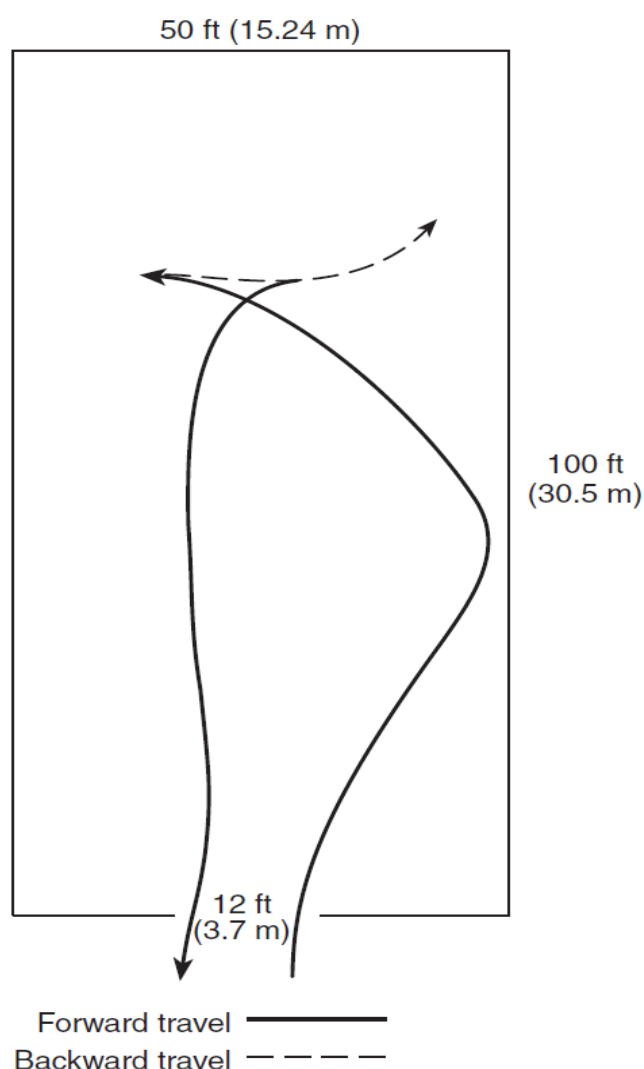

FIGURE A.4.3.4 Confined Space Turnaround.
A.4.3.4: The confined space turnaround exercise measures the driver's ability to turn the vehicle around in a confined space without striking obstacles. The turn is accomplished within an area 50 ft × 100 ft (15.24 m × 30.5 m). The driver moves into the area from a 12 ft (3.7 m) opening in the center of one of the 50 ft (15.24 m) legs, turns the vehicle 180 degrees, and returns through the opening. There is no limitation on the number of times the driver has to maneuver the vehicle to accomplish this exercise, but no portion of the vehicle should extend over the boundary lines of the space. (See Figure A.4.3.4)